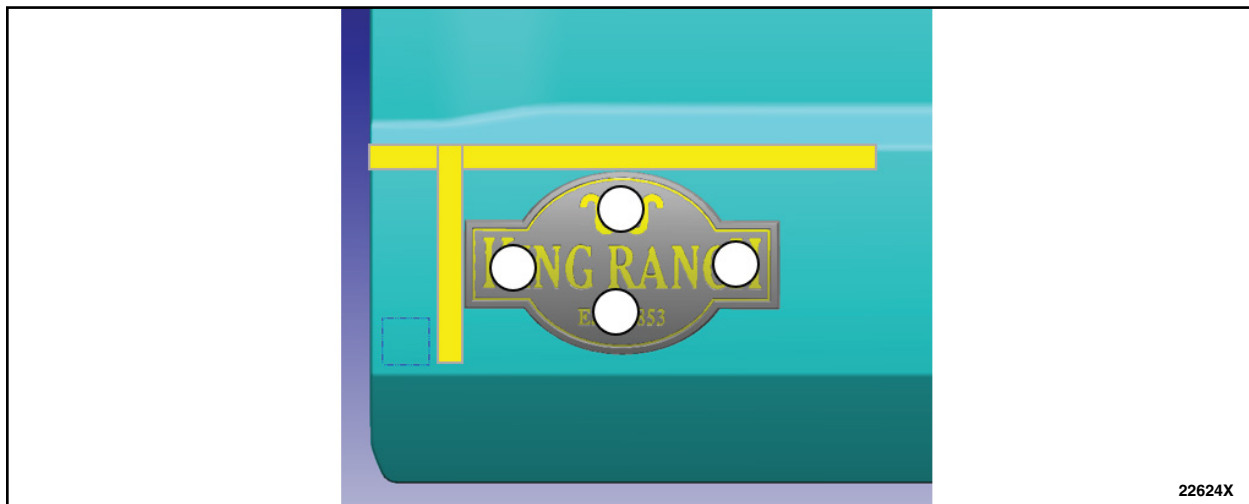

FIGURE 11
42. Remove the tape liner from the back of the badge and install to the door using the locating tape to properly align the badge. See Figure 11.
43. Using medium hand pressure, press for 3 seconds at a minimum of 4 separate locations along the length of the badge until the tape is fully adhered. See Figure 11.